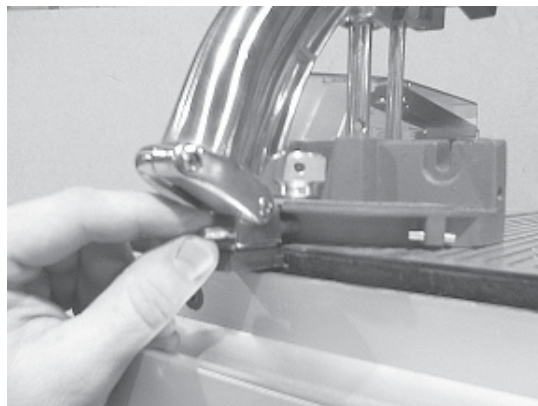

Figure B-123
1. The miter gauge mounts in the worktable slots. The face of the miter gauge angles from 30° right to 30° left (a 120° swing) and has three positive stops— 90°, 45° right, and 45° left. To use the stops, loosen the lock knob, push in the plunger and turn the miter gauge until the stop hits the plunger. See Figure B-123.